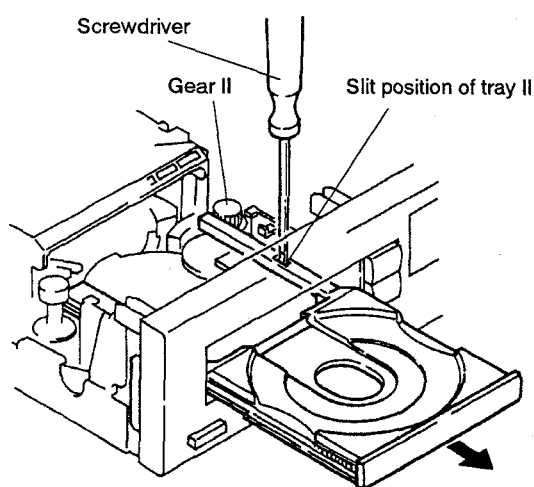

Fig. 1
1 Use nippers or other tool to cut the two sections marked ① in figure 1. Then remove the spacer.